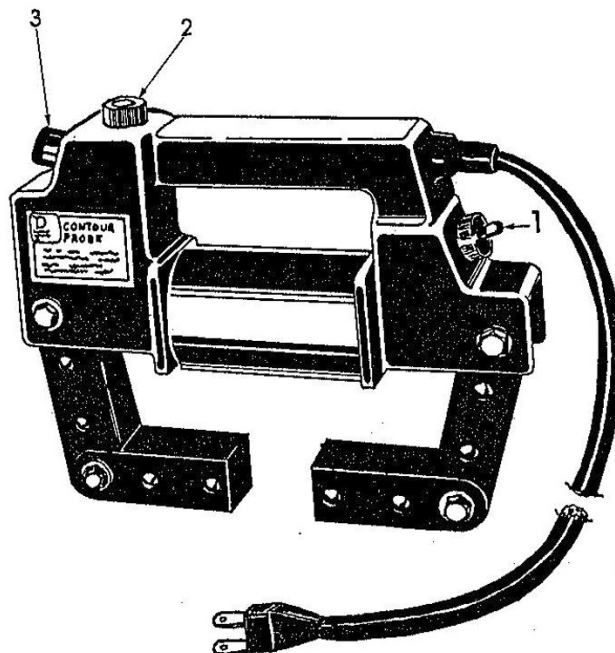

Figure 5-24. DA-200 contour probe.
The DA-200 contour probe (fig. 5-24) has only three controls. The toggle switch (1) on the back of the unit is used to select AC or pulsed-DC magnetizing current. When the test switch (2) on top of the unit is pressed, it applies the magnetic field. The rheostat on the front of the unit (3) is used to select the DC field strength.